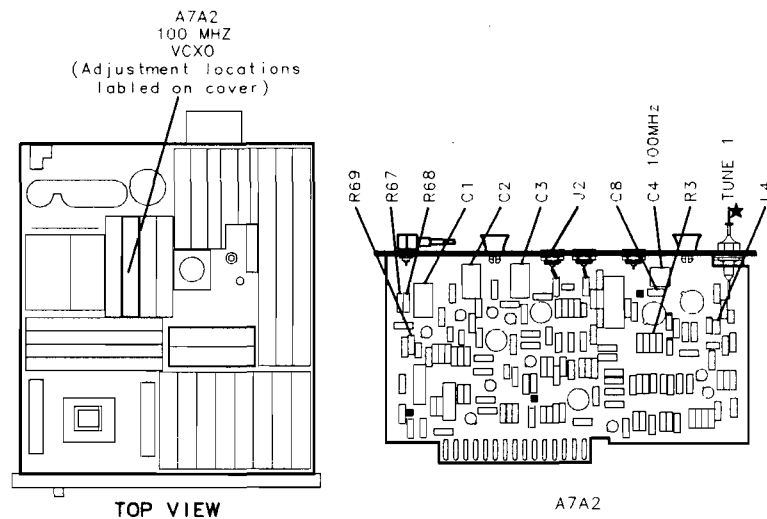

Figure 3-65. Location of 100 MHz VCXO Adjustments
3. Set the dc power supply for an output of -8 Vdc. Connect the -8 Vdc output of the dc power supply to the A7A2TP1 TUNE test point. Refer to Figure 3-65 for the location of the A7A2 100 MHz VCXO Assembly and test point A7A2TP1 TUNE.
If the output power of the 100 MHz VCXO drops off by more than 1 dB within ± 300 Hz of 100 MHz, select a new value for factory-selected component A7A2L4. An increase of A7A2L4 by one standard value will shift the tuning range of the 100 MHz VCXO lower in frequency by approximately 500-600 Hz; conversely, a decrease in the value of A7A2L4 will shift the 100 MHz VCXO tuning range higher in frequency by the same amount. Refer to Table 3-7 for the acceptable range of values and corresponding HP part numbers for A7A2L4, and to Figure 3-65 for the location of A7A2L4.
If A7A2C4 100 MHz does not have sufficient adjustment range to tune the 100 MHz VCXO +300 Hz to 100.000300 MHz, select a lower value for factory-selected component A7A2C8; conversely, select a higher value for A7A2C8 if A7A2C4 does not have sufficient range to tune the 100 MHz VCXO -300 Hz to 99.999700 MHz. Refer to Table 3-3 for the acceptable range of values, and to Table 3-4 for HP part numbers; refer to Figure 3-65 for the location of A7A2C8.
8. Adjust A7A2C4 100 MHz slowly through its full range while monitoring the display of the second spectrum analyzer. The output of the 100 MHz VCXO should be a single output signal near 100 MHz, with no spurious oscillations at other frequencies. If spurious oscillations are present, increase the value of factoryselected component A7A2R3 by one standard value and check again for spurious oscillations. Refer to Table 3-3 for the acceptable range of values, and to Table 3-4 for HP part numbers; refer to Figure 3-65 for the location of A7A2R3.
values for the attenuator resistors to adjust the 400 MHz output power level to -10 dBm . Refer to Table 3-10 for HP part numbers, and to Figure 3-65 for the location of A7A2R67, A7A2R68, and A7A2R69.